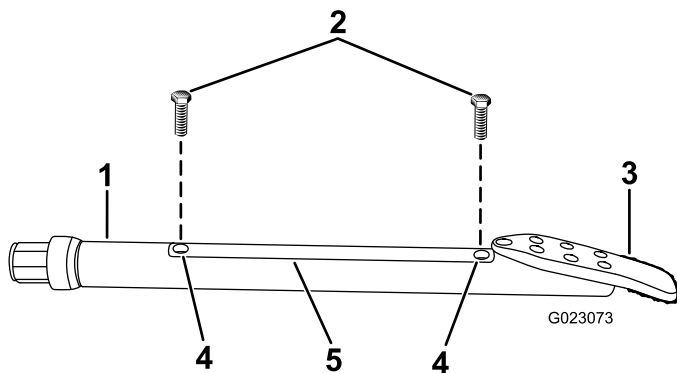

Figure 73
2. Loosen the screws securing the housing cover to the housing and remove the cover (Figure 73).
4. Install the housing cover and secure it with the screws (Figure 73).